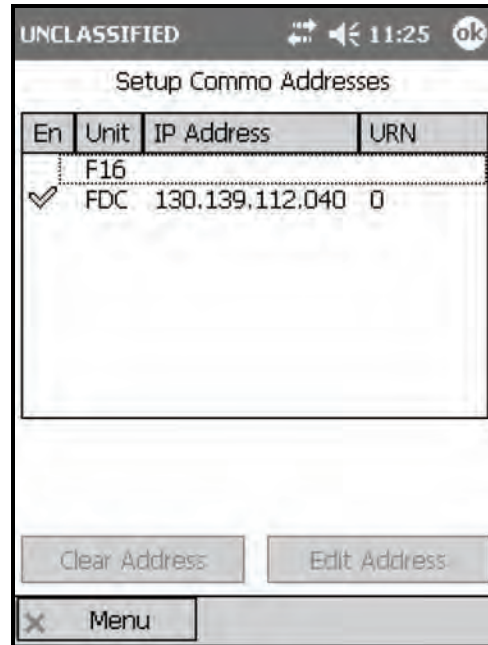

Figure 17-23. Setup Commo Addresses screen.
- (1) Display the Setup Commo Addresses screen (Figure 17-23) by: